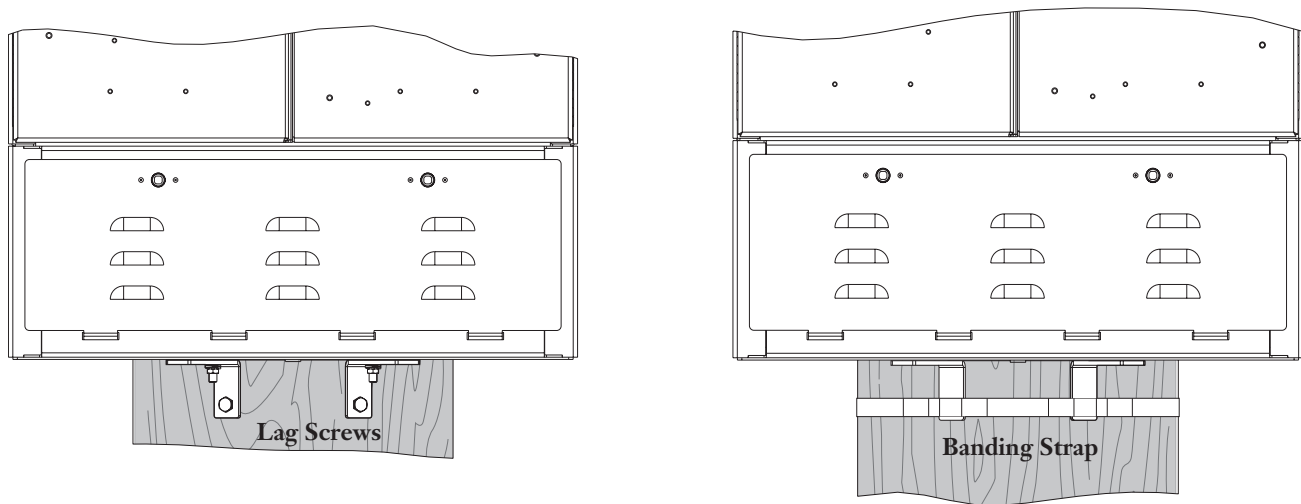

Figure 9 — Secure Angled Brackets to the Pole
Step 4 Secure the bottom of the cabinet to the pole using the angled brackets at the bottom of the cabinet (Figure 9).